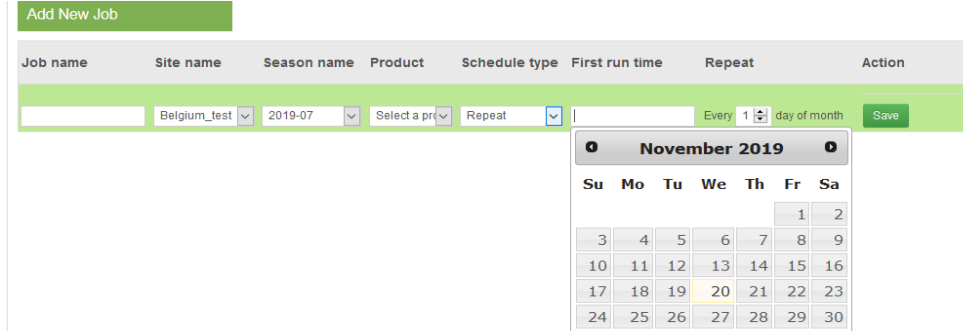

Figure 4-28. Adding “Repeat” scheduled type
- “Repeat” – this option allows to schedule a task at a certain date and then to reschedule the task at a certain day of the month (Figure 4-28). For example, a configuration with the start date of 1st of March and “On every” set to 4 will execute first on 1st of March, then on 4th of March, then on 4th of April, then on 4th of May and so on.